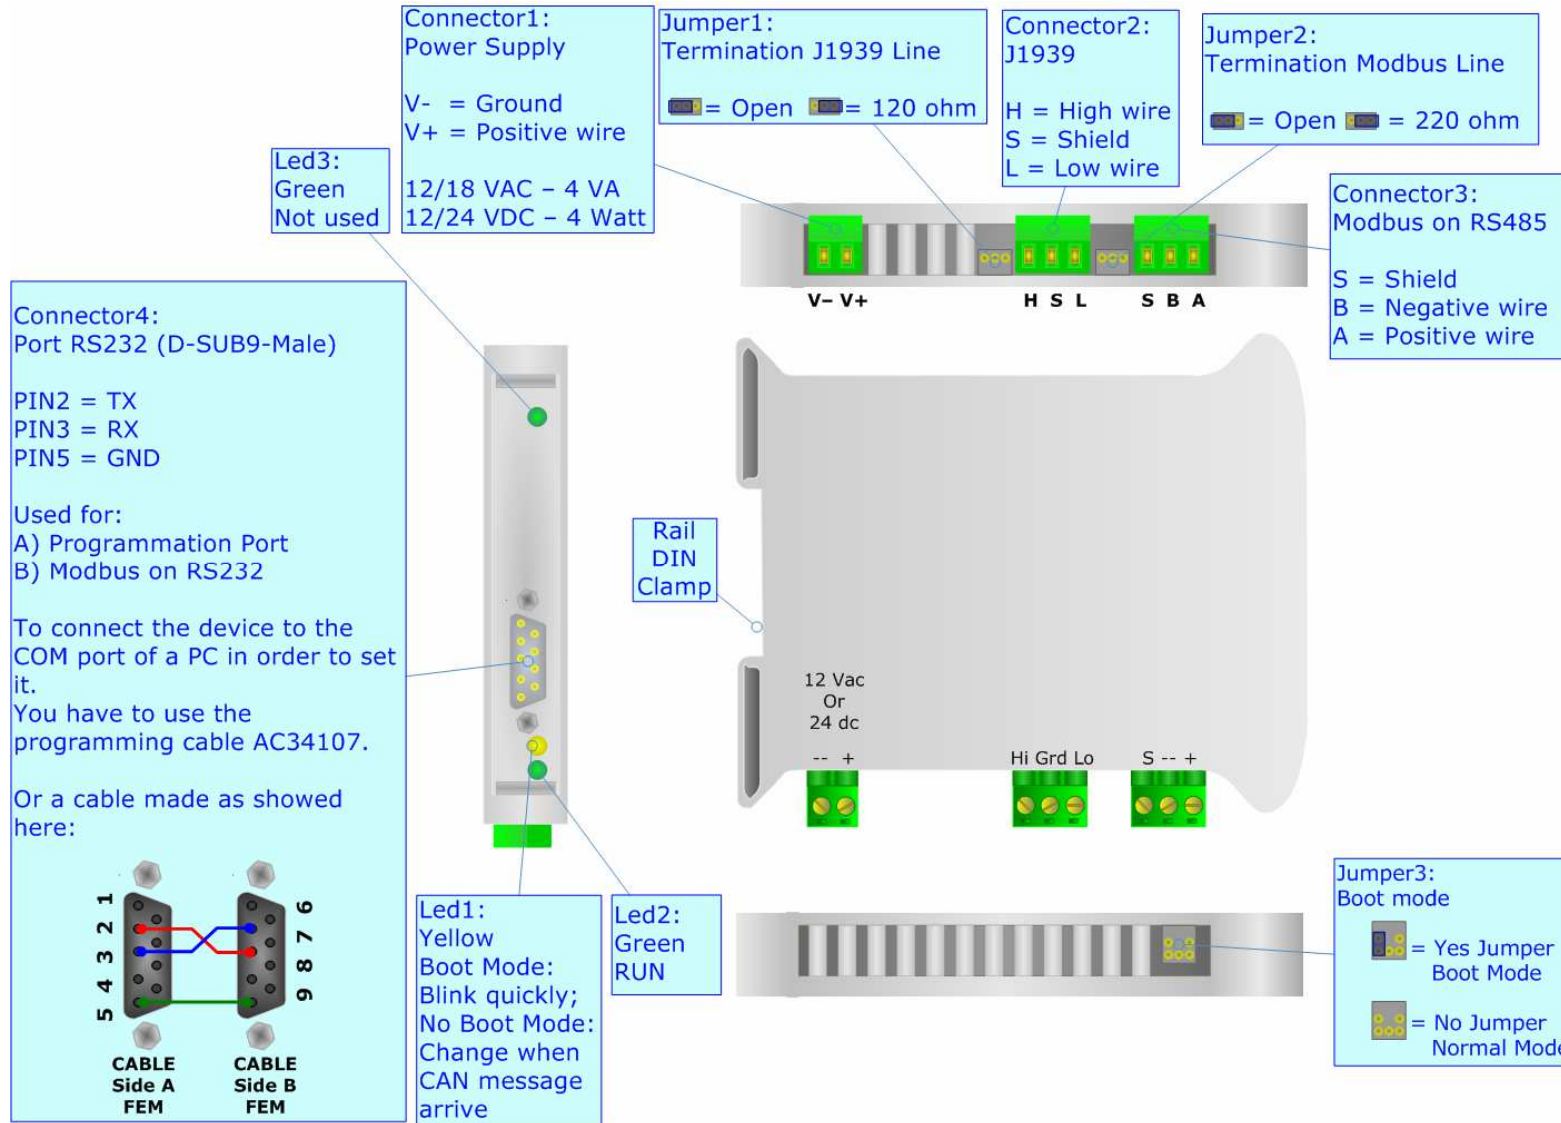

Figure 1: Connection scheme for HD67212
- Insert the Boot Jumper (See the Fig. 1 for more info);
- Check the Boot Led. It must blink quickly (See the Fig. 1 for more info)